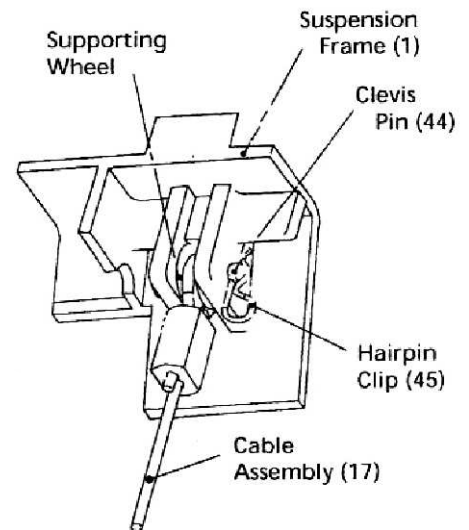

Figure 5B
- a. Place the ring end of the new cable, along with the supporting wheel, into the groove of the suspension frame. See Figure 5B.